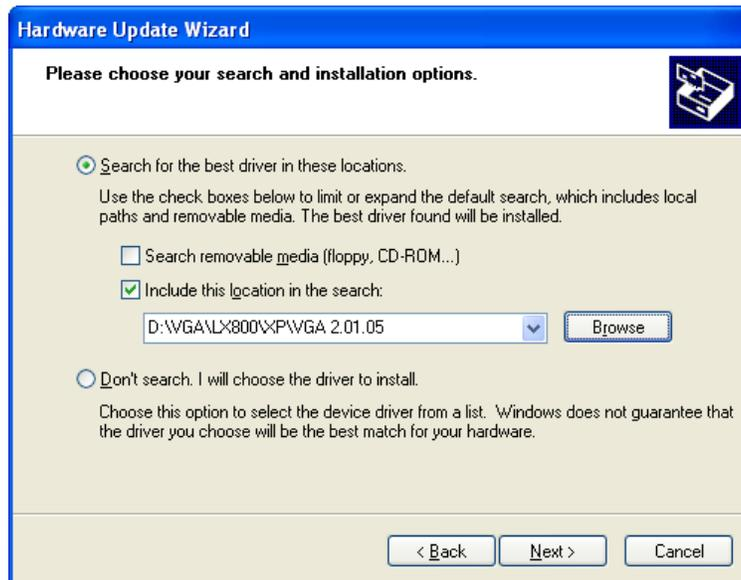

Figure 6-10: Search Options Window
Step 16: The following window (**Figure 6-10**) appears.